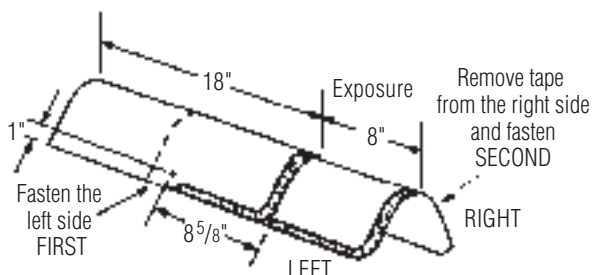

Figure 17-19: Installation of Shangle Ridge shingles on hips and ridges.
7. Fasten each cap with two fasteners (Figure 17-19). The fasteners must be 1 3/4" long, or longer, so they penetrate either 3/4" into the deck or completely through the deck, exposing at least 1/8" of the tip of the nail. Expose 8" of the Accessory along the ridge or hip line and cover all fasteners.